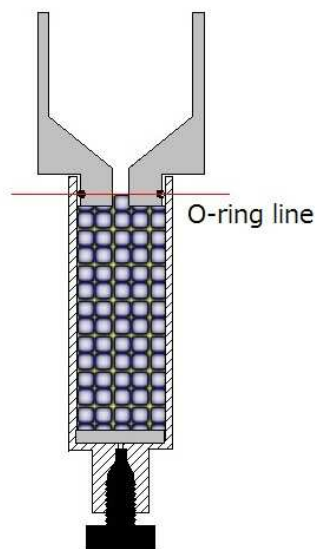

Fig. 4
11) Install the stop plug at bottom of the tube and remove the excess slurry remaining in the packing reservoir above the O-ring line (see Fig 4) by pouring (Photograph P4) or using a pipette (Photograph P5). Discard the pooled packing solution elute from column tube in the collected in the bottom of the screw press/stand.